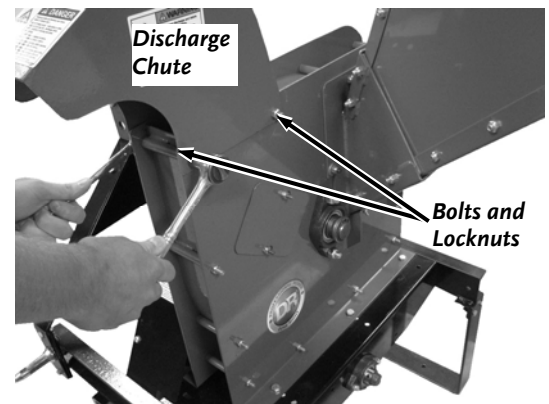

Figure 25
3. Remove the two Bolts and Locknuts that secure the Discharge Chute to the Chipper Basic Assembly with two 1/2" wrenches and then remove the Discharge Chute (**Figure 25**).